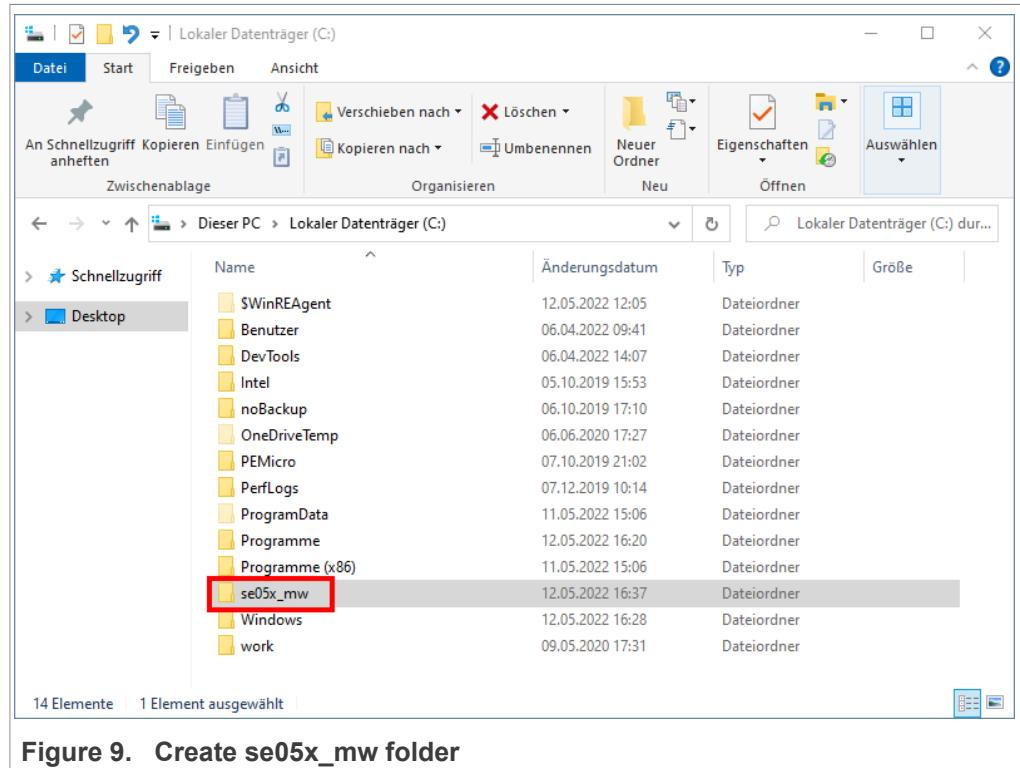

Figure 9. Create se05x\_mw folder
2. Create a folder called **se05x\_mw** in C: directory as shown in Figure 9: